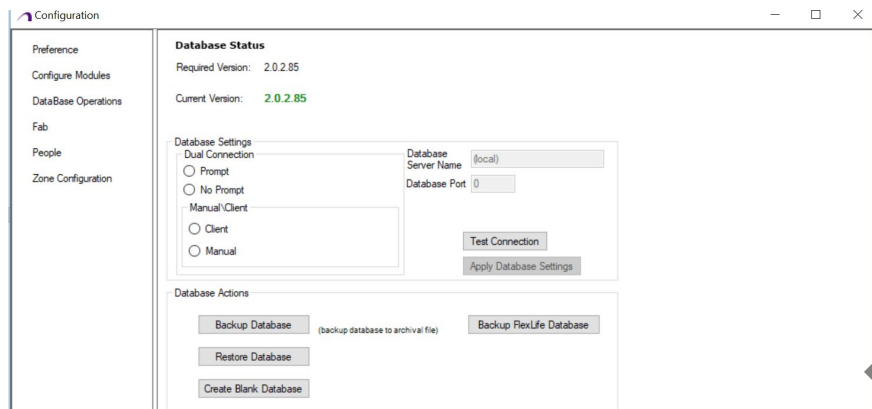

Figure 5-31 Database Operation
2. A Database Operation window will open, as shown in Figure 5-31.